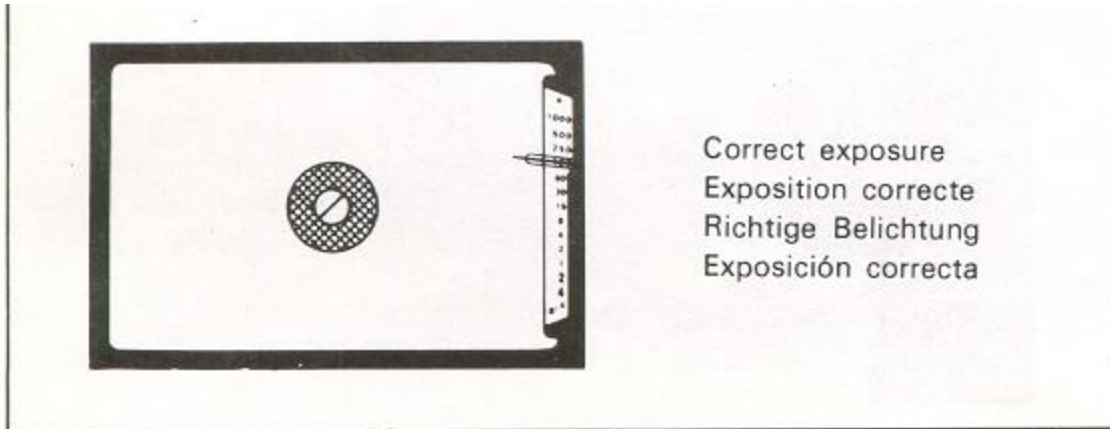

Fig. 22
4. While keep pressing Shutter Release Button (11) half way down, rotate F-Stop Ring (22) and align Exposure Meter Needle (41) with Shutter Speed Indicator (42) (Fig. 22).